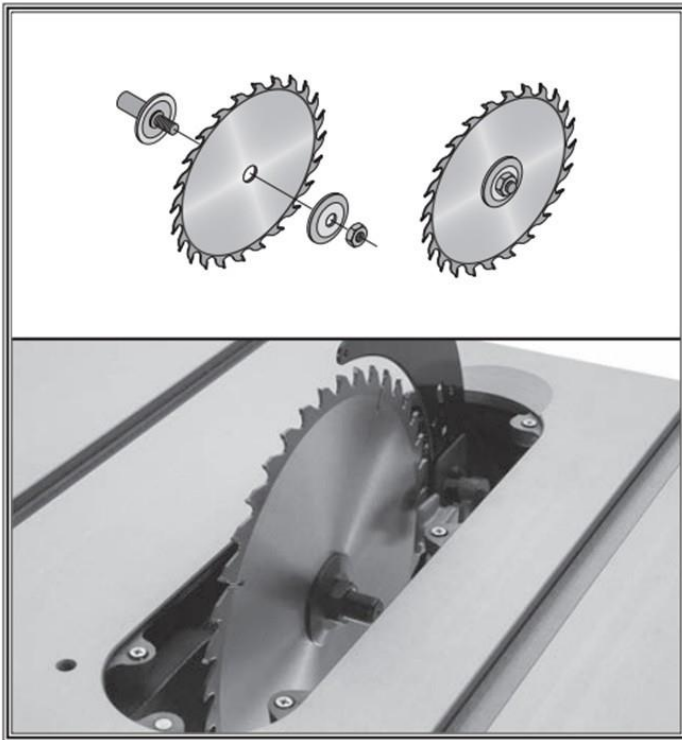

Figure 33: The correct order of installation.
- 4 - Install the new blade, flange, and arbor nut (as shown in figure 33). Make sure the teeth are facing the front of the saw.